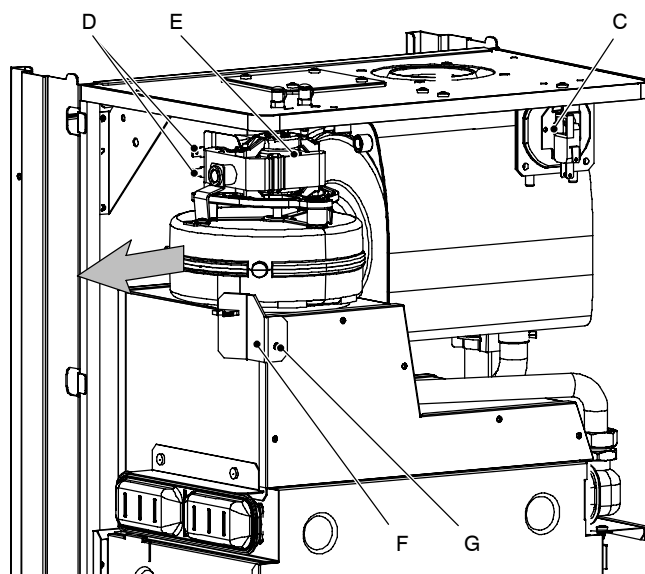

Fig. 78
- 4 Unscrew the screw *F* and remove the bracket *G* (Fig. 78).
- 5 Remove the Fan by sliding it towards left (se the arrow in Fig. 78).